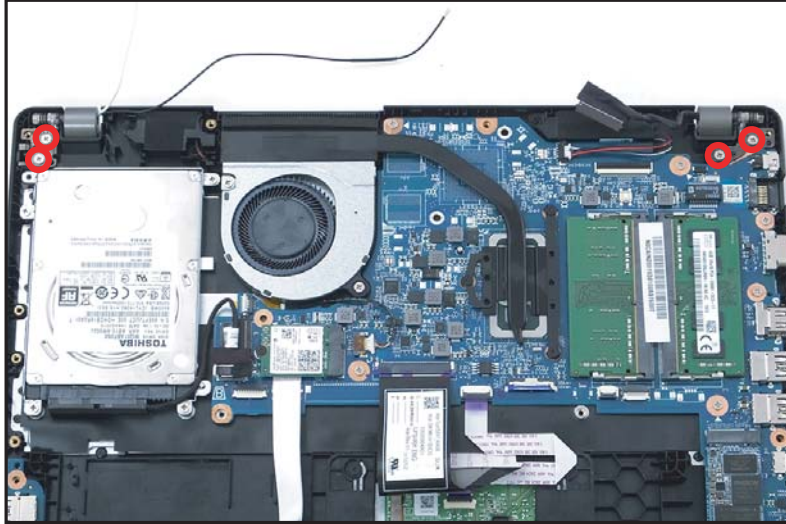

Figure 1-30. LCD Module Removal
4. Remove four (4) screws securing the LCD module in place (Figure 1-30).